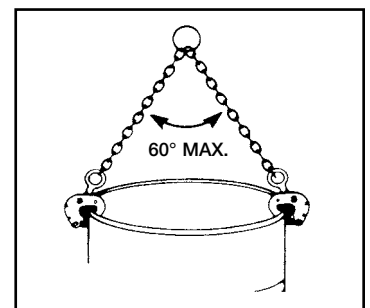

Figure 62
**⚠ WARNING!: Do not exceed 60° maximum angle between chain legs (Fig. 62).**